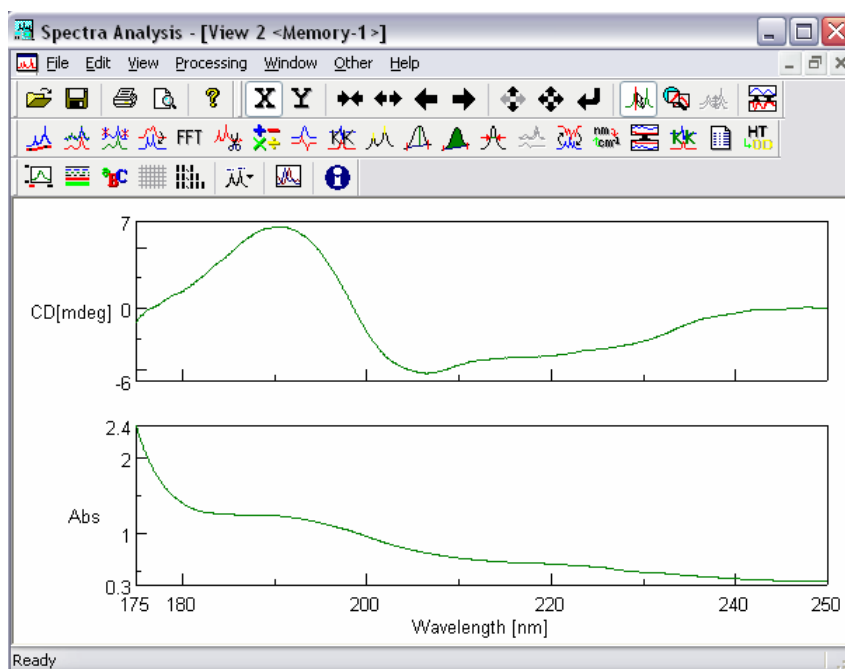

Figure 7.21 Spectrum View
- (1) Load a JASCO standard or JASCO Old Std file into the Spectra Analysis Window following the procedure described in Section 7.2. Figure 7.21 shows an example.